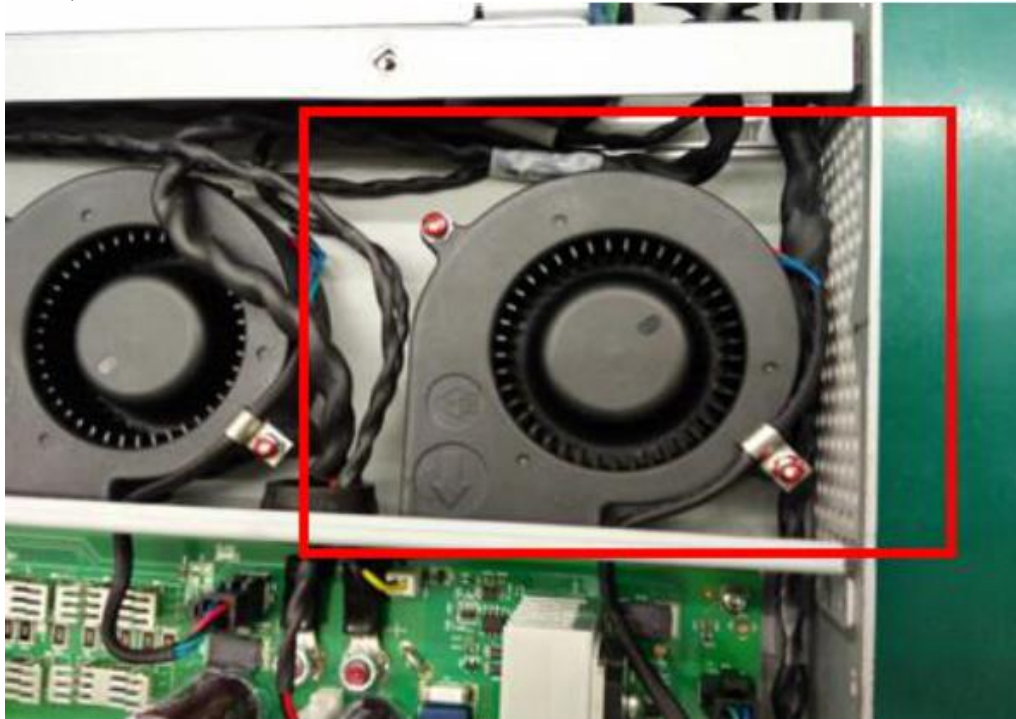

Figure 17
18. Screw the fan to the original position as shown in Figure 17.